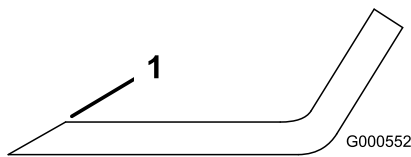

Figure 56
1. Use a file to sharpen the cutting edge at both ends of the blade (Figure 56).
**Note:** If the blade is not balanced, file some metal off the end of the sail area only (Figure 56).